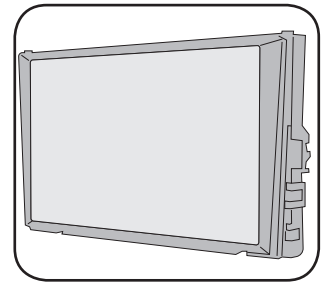

Fig. 3.1
- Place the Pioneer screen into the VW1 bezel. (Fig. 3.1)